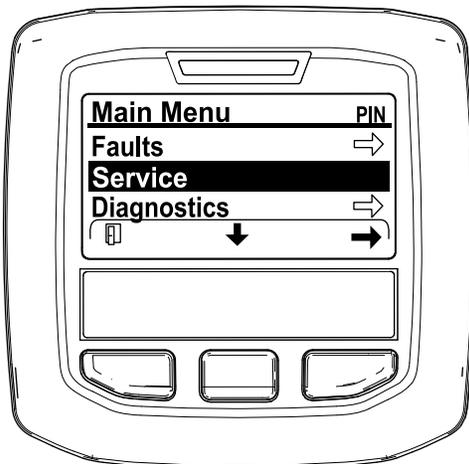

Figure 37
2. Navigate to the MAIN MENU, press the center button to scroll down to the SERVICE MENU, and press the right button to select the SERVICE option (Figure 37).